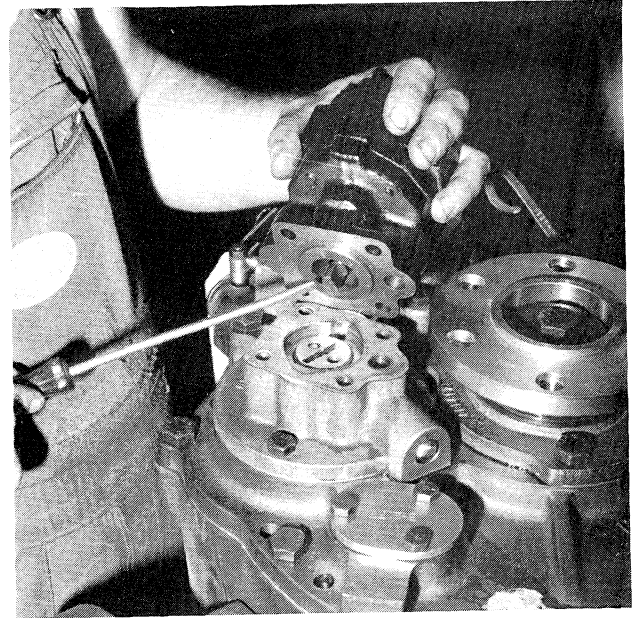

Figure 9-10. Installing oil pump with care to align drive tang.
2. Install oil level gauge tube (14) if removed, and oil level gauge (13).
4. Install gasket (40) and oil pump assembly (41) aligning the tang on the pump shaft with the slot in the reverse clutch shaft. See Figure 9-10. Secure with capscrews (Figure 12-1, 42). Torque the capscrews 15 ± 2 lbs. ft.